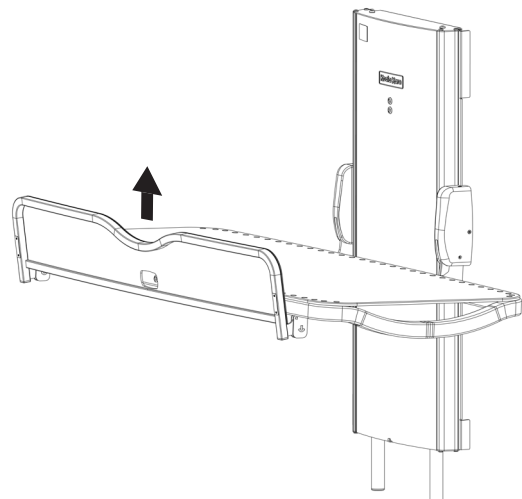

Fig 6.6c
- Once upright, the guard will be able to drop down into its location and lock into place, see Fig 6.6c.